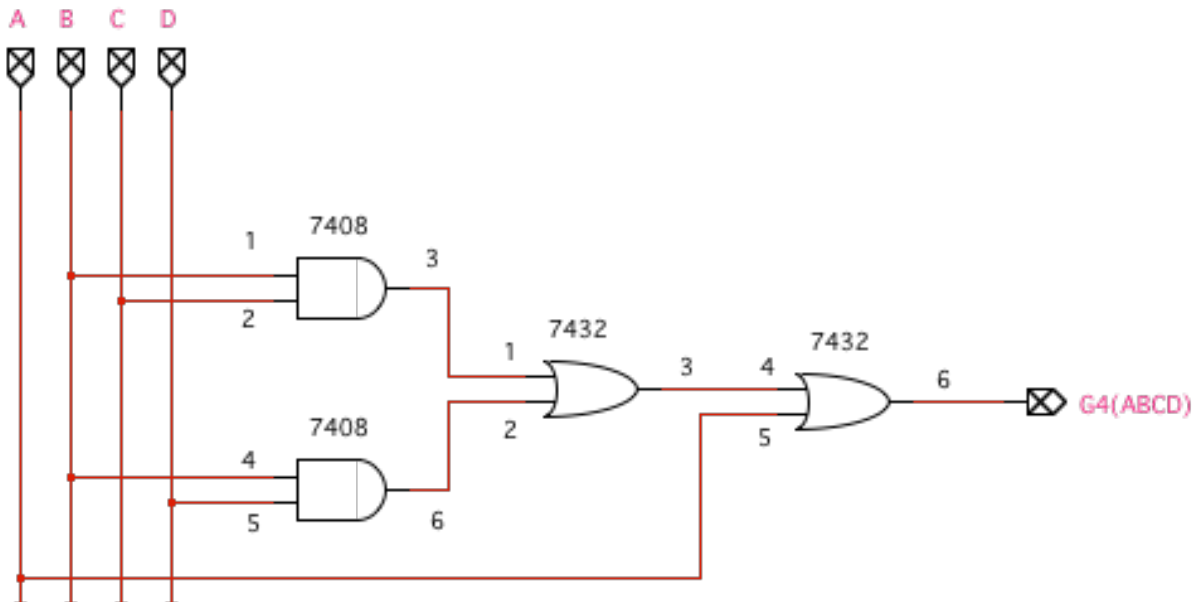

Figure 12: Greater-than-4 detector
- a. **Use** the schematic diagram shown in the reference figures at the end of this lab packet to guide your work. The greater-than-4 detector is Figure 12.